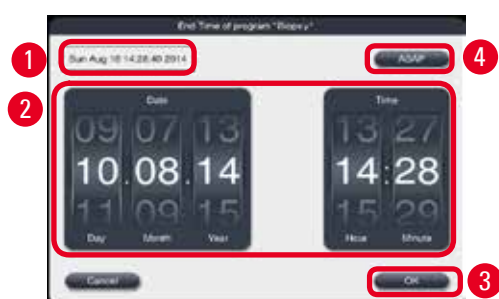

Fig. 67
6. Select the cassette number and press **OK**. The **End Time of Program** window (→ "Fig. 67") pops up. The default end time (→ "Fig. 67-1") for the selected program is shown.